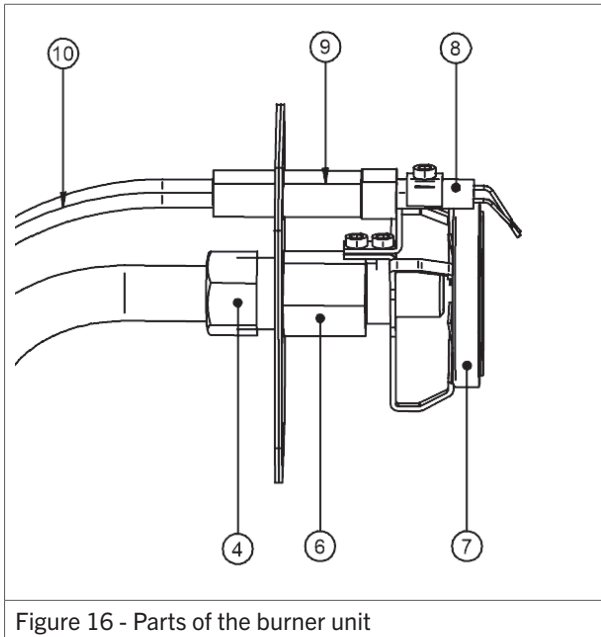

Figure 16 - Parts of the burner unit
2. Remove the gas pipe by unscrewing the compression fitting (figure 16 - 4).
3. Remove the two connecting boots (figure 16 - 9) from the ignition electrode by gently pulling at the cables.
The burner consists of the following parts (figure 16):